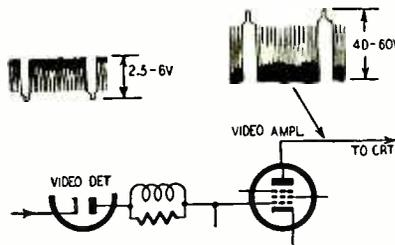

Fig. 4—Typical waveforms at the video amplifier grid and plate circuits.
2. *Signal tracing with an oscilloscope* In making bench checks for weak video, signal tracing with an oscilloscope is very effective. Check the waveform at the video detector load and measure the peak-to-peak voltage to determine if output at this point is below par (Fig. 4). Normally it is from 2.5 to 6 volts. Check the waveform at the plate of the last video amplifier, with the contrast control at the maximum clockwise position. The normal peak-to-peak voltage at this point is 40